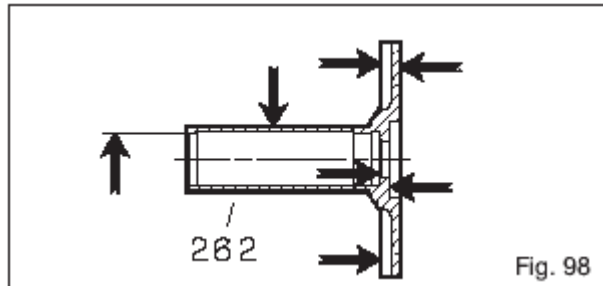

Fig. 98
Inspect vanes of dynamic seal repeller (262) (where fitted) as shown in Fig. 98